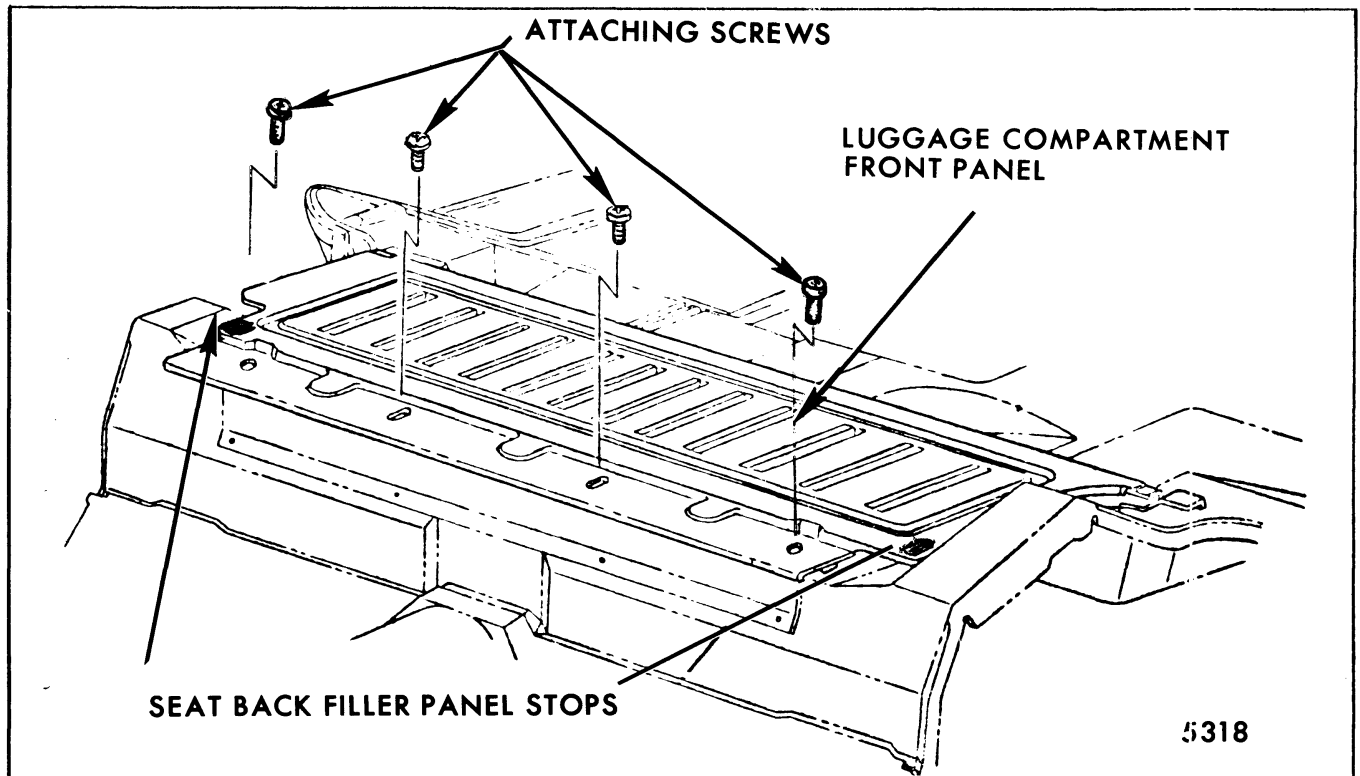

Fig. 9-69-Luggage Compartment Front Panel
3. Remove luggage compartment front panel, front attaching screws and seat back filler panel stops (Fig. 9-69).